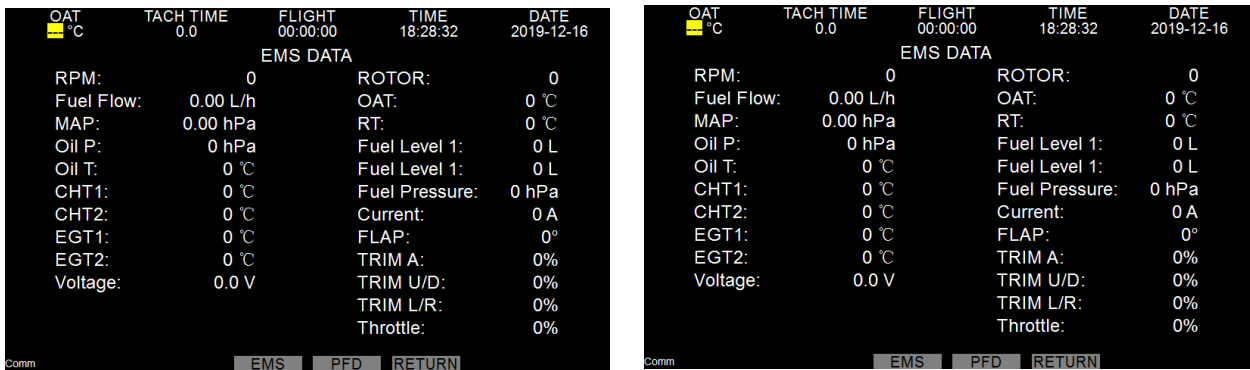

Fig. 8 Data page
- DATA:** Press this button to enter the data display page. The will show the data of each parameter in a list format. Continue to press the PFD button to display the flight parameter data. See Fig. 8 in section 3 for details.
In any of the four display screens from Fig. 7 you can press the DATA button to enter the data page. This displays the engine parameter data in the form of a list. Press the PFD button to display the flight parameter data and then press EMS to switch back the engine parameter data. Press RETURN to exit, as shown in Fig. 8.